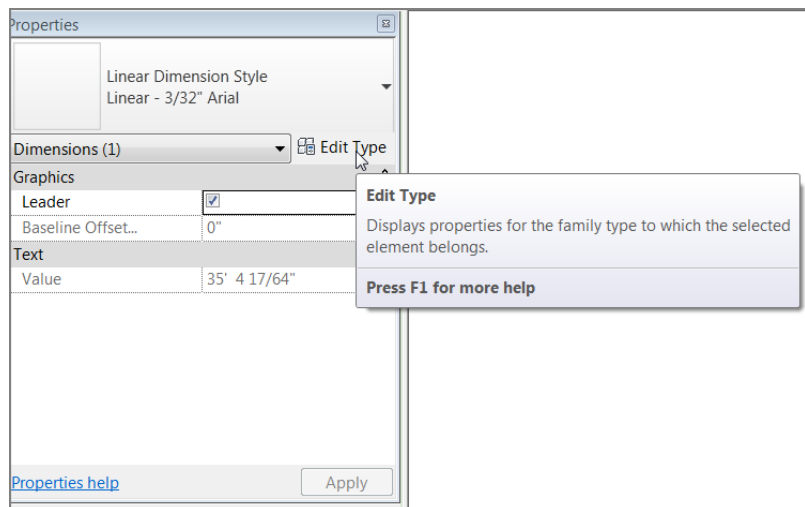

FIGURE 5.13: Clicking the Edit Type button to begin creating a new dimension style
2. In the Properties dialog, click the Edit Type button, as shown in Figure 5.13.